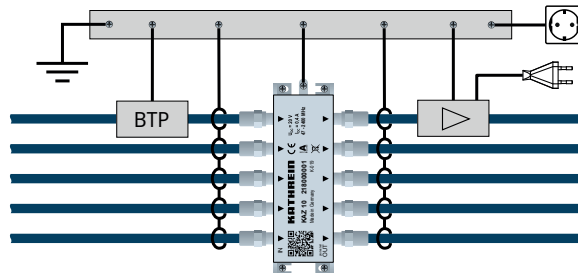

Fig. 3: Example of equipotential bonding
- ▶ Equipotential bonding is performed according to Fig. 3. Additionally, the ground terminals must be connected with short cables (Cu, 4 mm2).